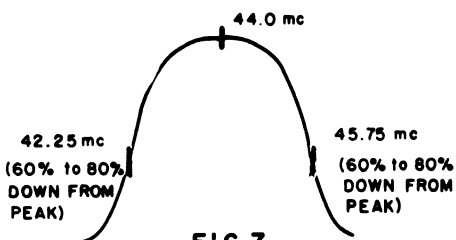

FIG. 7
20. Increase bias voltage to -4.5 volts and adjust the oscilloscope so that 2 inches of vertical deflection is equivalent to approximately 2 volts P-P output. Adjust output of signal generator until a 2 volt P-P indication is obtained on the 'scope. Response curve and marker positions should conform to Fig. 7.
CAUTION - No attempt should be made to improve a response curve which conforms to that shown in Fig. 7.